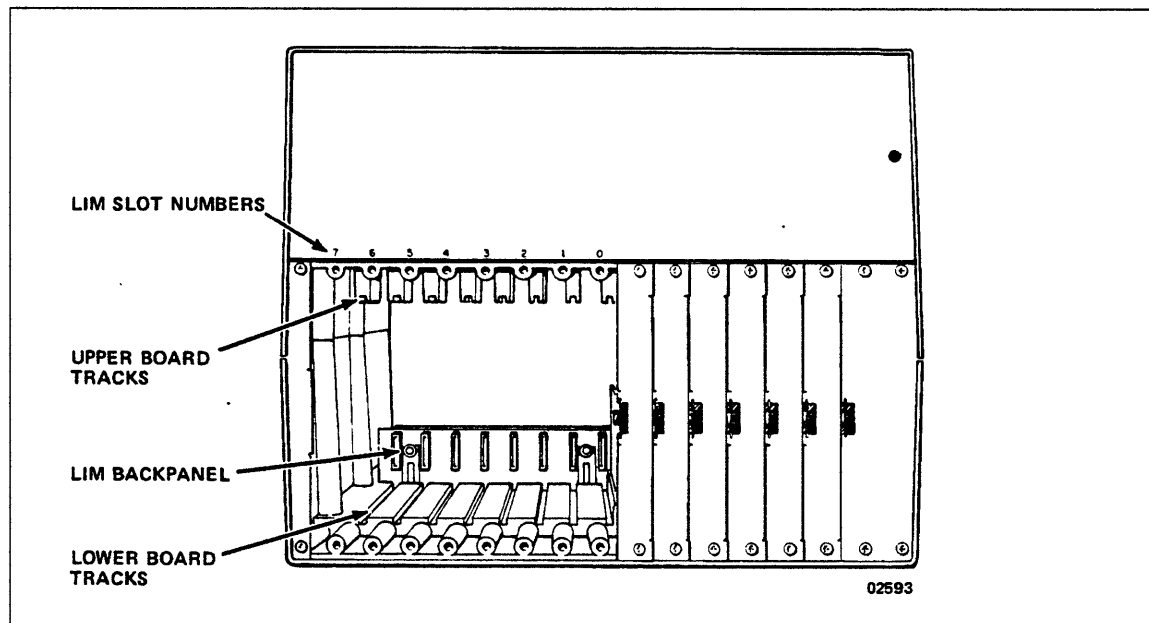

Figure 3-36. LIM Backpanel
2. Refer to cabinet configuration form (figure 3-2) for slot number of LIMs and remove filler plate(s) from back left of cabinet (figure 3-36).